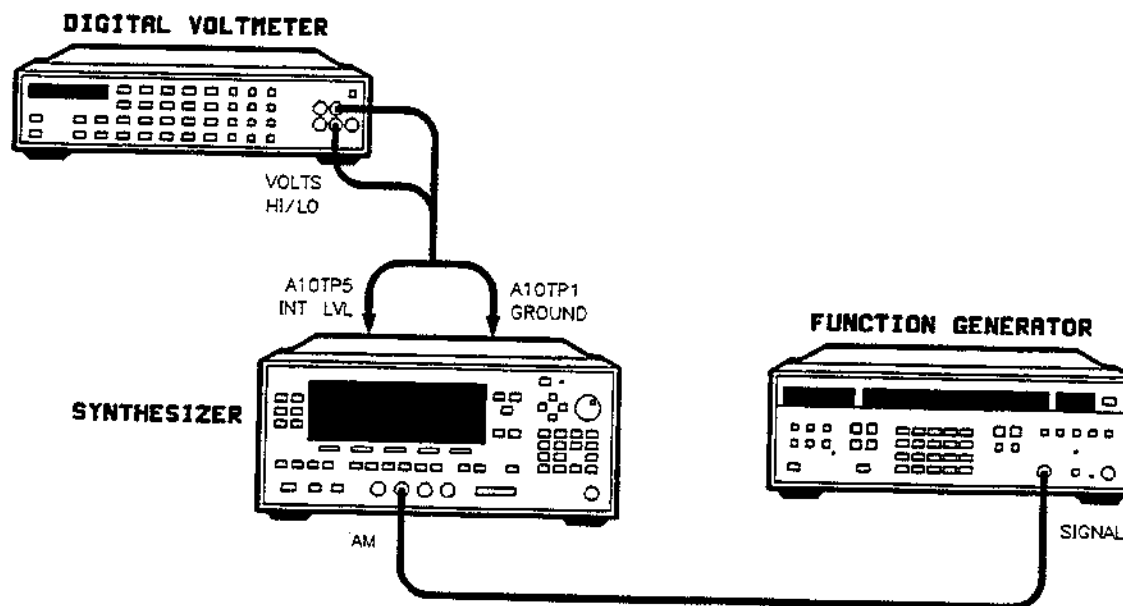

Figure 3-30. AM Delay Adjustment Setup
1. Preset the instruments shown in Figure 3-30 and let them warm up for at least one hour.
- Connect the equipment as shown in Figure 3-30.